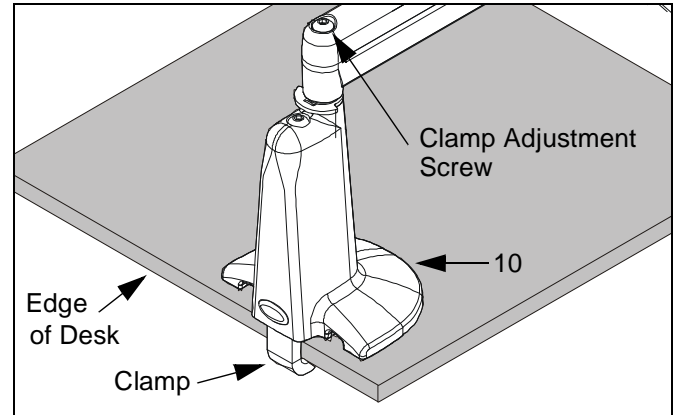

Figure 5: Desk Mount - Edge Installation
1. Slip mount (10) over edge of desk so that clamp fully contacts desk edge. Using 3/16" hex key, securely tighten clamp adjustment screw (See Figure 5).